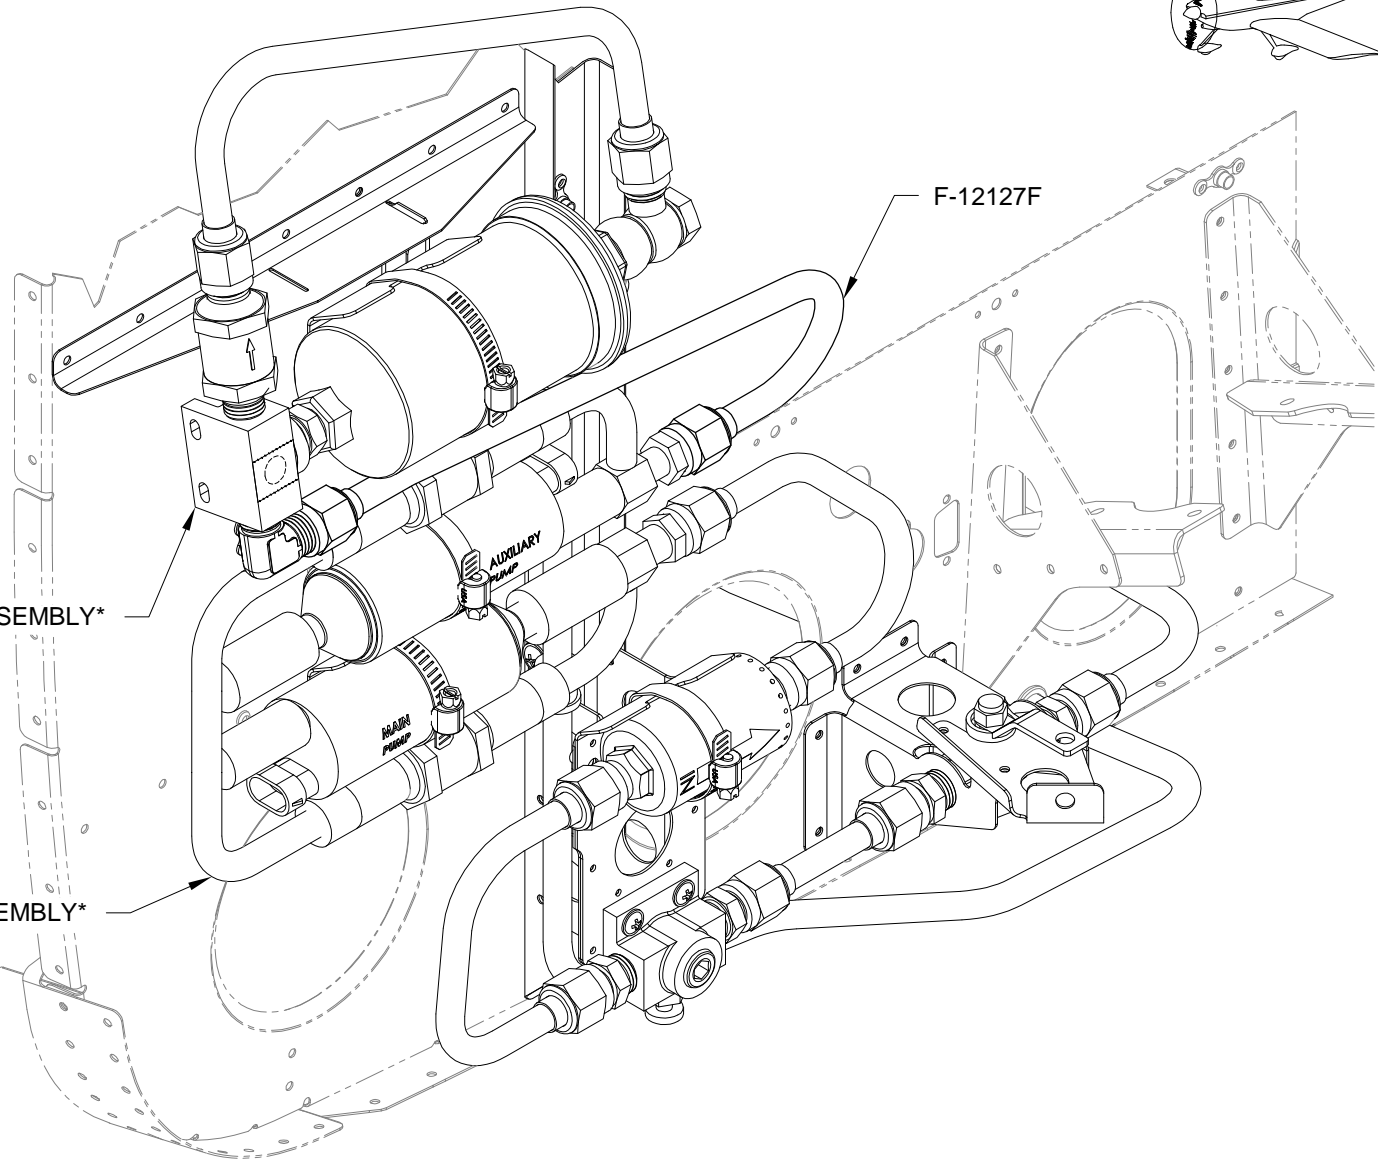

FIGURE 2: F-12127F PUMP TO ADAPTOR FUEL LINE INSTALLATION
Step 4: Attach the F-12127F to the Rotax Fuel Pump Assembly* and the Main Fuel Filter Assembly* as shown in Figure 2. A small amount of bending/adjustment by hand is acceptable.